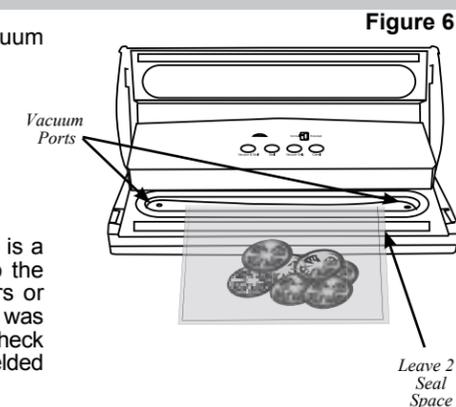

Figure 6
2. Be sure that the bag is inserted properly. The open end of the bag should be centered within the Oval Vacuum Seal. Be sure not to cover the Vacuum Port opening (Figure 6).